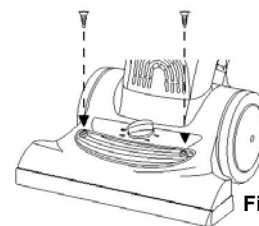

Fig. 23
2. With a Phillips #2 screw driver, remove the two screws that are on the head light lens. (Fig. 23)